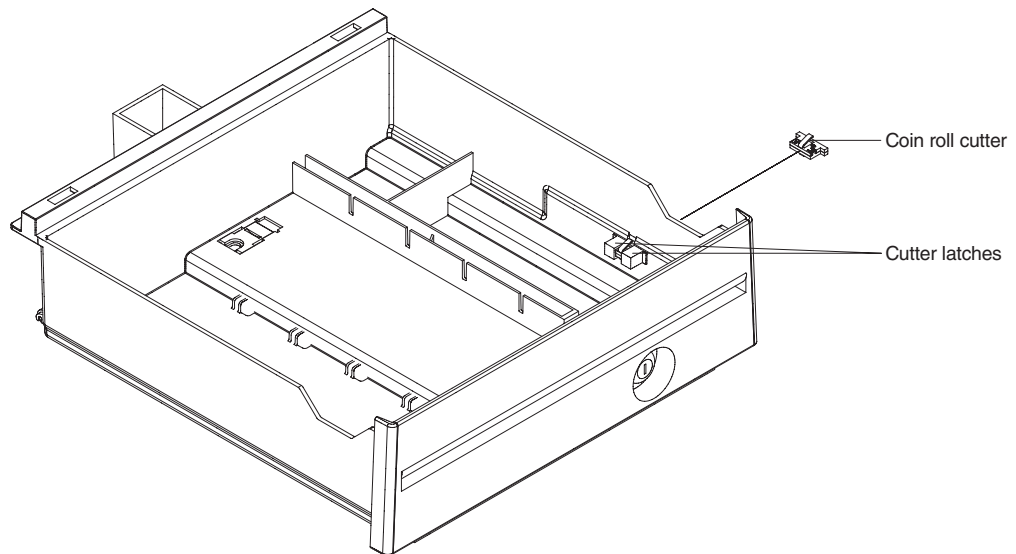

Figure 92. Removing the coin-roll cutter
3. From inside the drawer, squeeze the cutter latches together with your fingers and push the cutter outward until it can be removed from the outside (see Figure 92 on page 112).